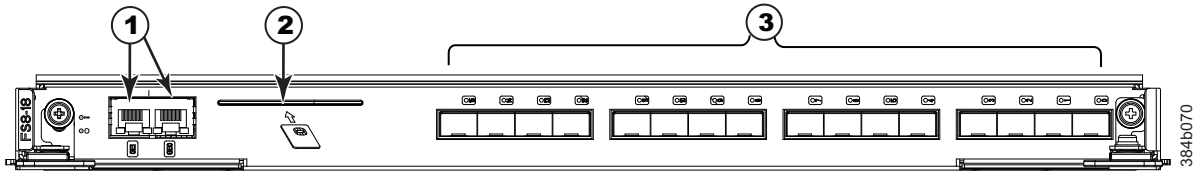

Figure 60. FS8-18 encryption blade
- Figure 60 on page 149 shows an FS8-18 encryption blade